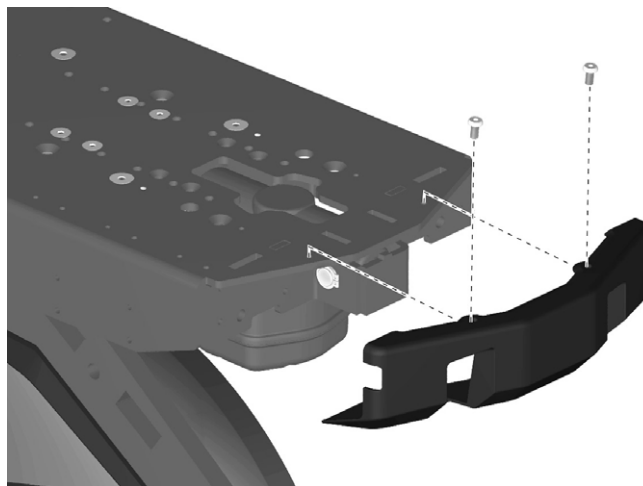

Figure 105. The pinch guard is assembled with four screws.
1. Fit the pinch guard to the top plate using the four screws. See fig. 105.